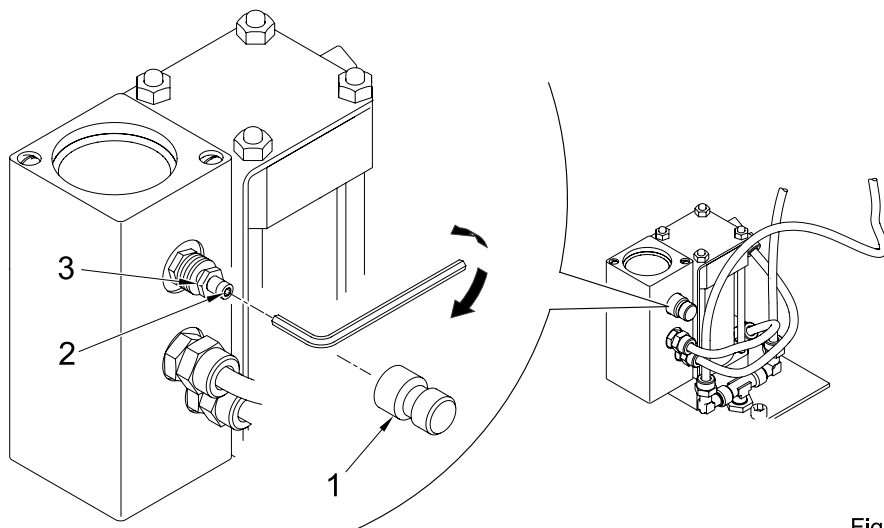

Fig. 9
Adjust the correct flow rate according to the fluidity of the lubricant, acting on the adjusting screw placed in the valve, the same determines the cycle time (Fig. 9). To perform the adjustment you have to unscrew the protective cap (1) on the screw (2) with the key, unscrewing the locking nut (3). When set, return the locking nut (3) to the closing position and restart the protective cap (1).